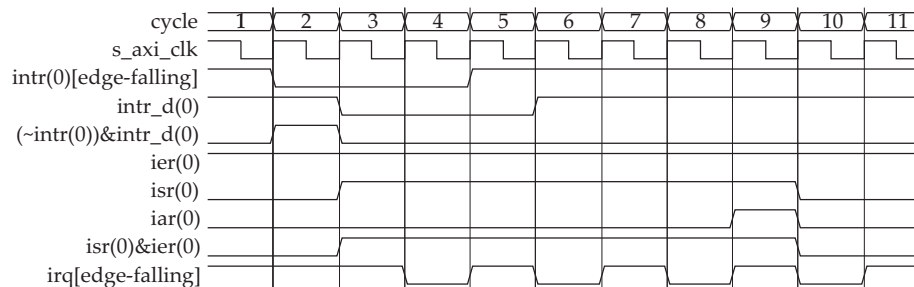

Figure 24: Input Intr - Edge Sensitive (Falling) and Output Irq - Edge Sensitive (Falling)
14. Configured Input Interrupt (Intr) for Edge sensitive (falling) and Output Interrupt Request (Irq) to Edge sensitive (falling) and is shown in Figure 24.